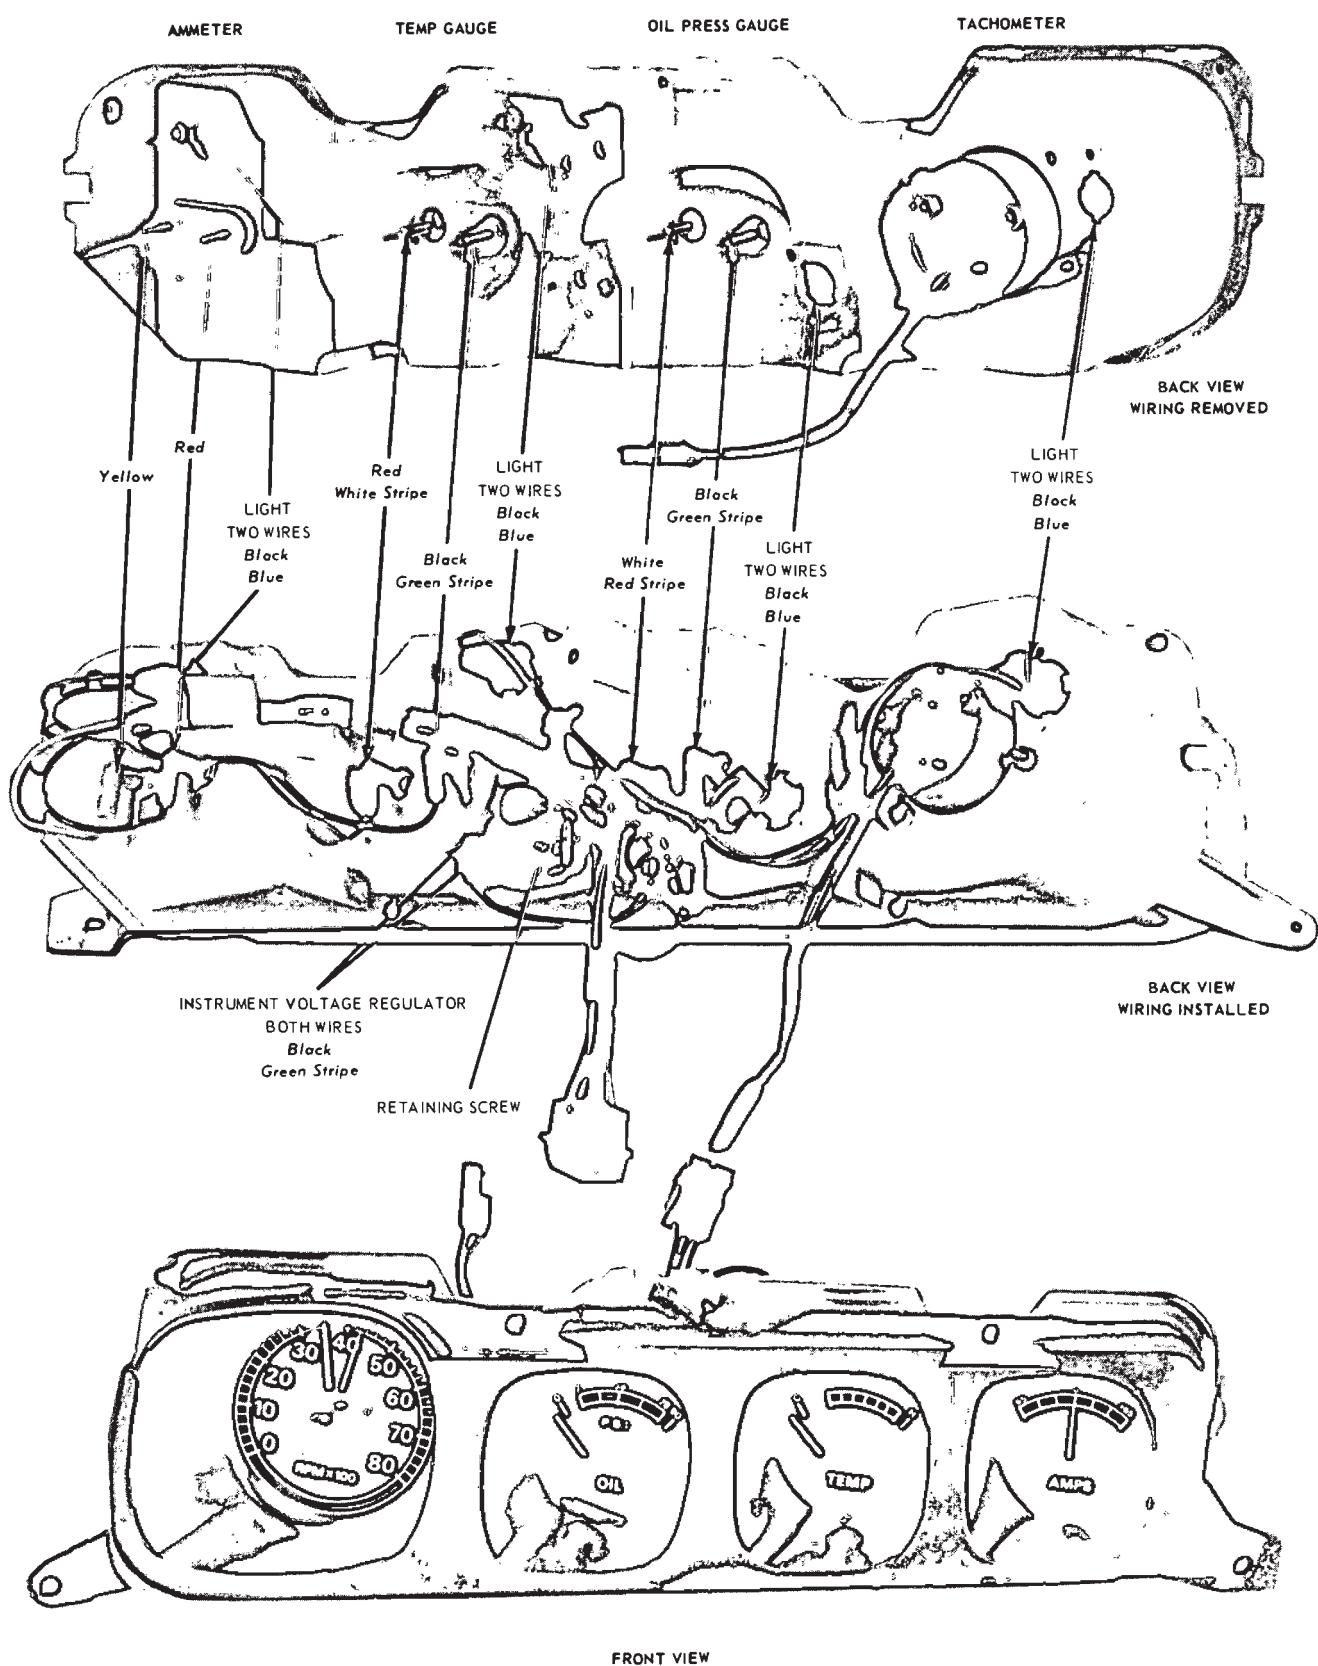

FIG. 19—Montego Auxiliary Instrument Cluster—Cyclone Spoiler Models
In addition to the main instrument cluster, the Cyclone Spoiler model is equipped with an auxiliary cluster which is mounted in the right side of the instrument panel pad and retainer assembly. The temperature, oil pressure, and charge indicator lights are omitted from the main cluster. The auxiliary cluster contains a tachometer, an oil pressure gauge, an engine temperature gauge and an ammeter (Fig. 19).
From underneath the instrument panel pad, reach up behind the cluster and turn the bulb and socket assembly counterclockwise to disengage it from the cluster (Fig. 19).
regulator from the cluster (Fig. 19).
2. If the tachometer is being removed, remove the nuts from the three mounting studs at the back of the cluster assembly (Fig. 19).
7. If the tachometer is being installed, install the retaining nuts on the three mounting studs at the back of the cluster (Fig. 19). If the ammeter, temperature gauge, or oil pressure gauge is being installed, install the two retaining nuts and connect the wires to the two gauge terminals as shown.